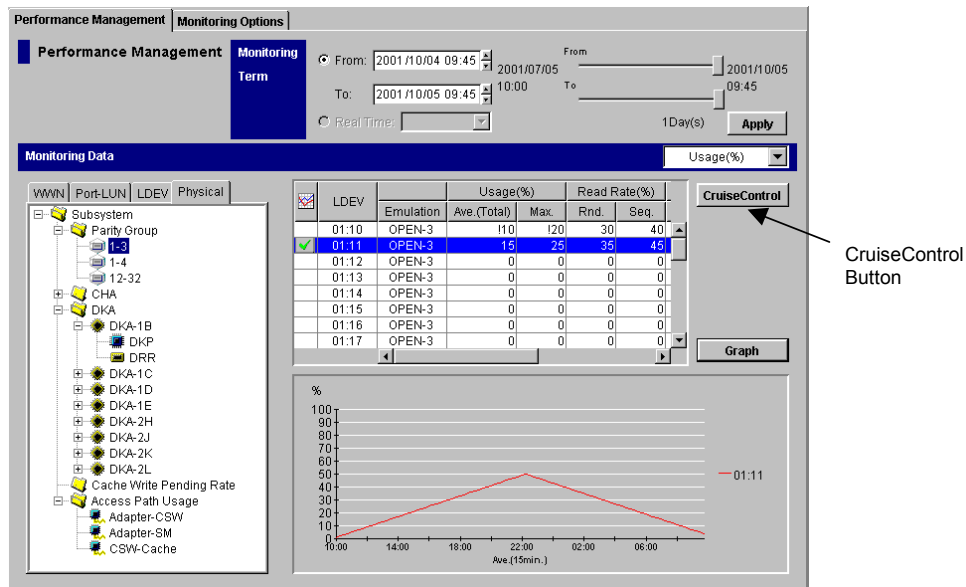

Figure 4.1 Physical Tab in the Performance Monitor Panel
**Note:** Performance Monitor must be running to allow CruiseControl operations. The CruiseControl panel appears when the CruiseControl button in the Performance Monitor Physical tab is clicked, as shown in Figure 4.1.